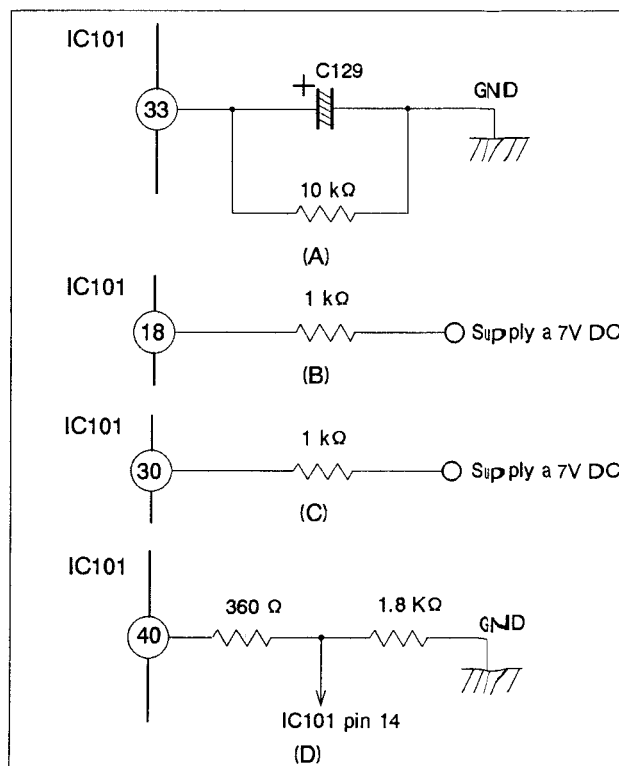

Fig. 3-1-21 LC VCO
- 1) Connect 10 k Ω resistor between pin 33 of IC101 of the video board and GND, as in Fig. 3-1-21 (A).
- 2) Supply a 7 V DC to pin 18 of IC101 of the video board with 1 k Ω resistor, as in Fig. 3-1-21 (B).
- 3) Supply a 7V DC to pin 30 of IC101 of the video board with 1 k Ω resistor, as in Fig. 3-1-21 (C).
- 4) Use a jumper jig as shown in Fig. 3-1-21 (D) and connect jumper jig between pin 40 of IC101 and pin 14 of IC101 of the video board.